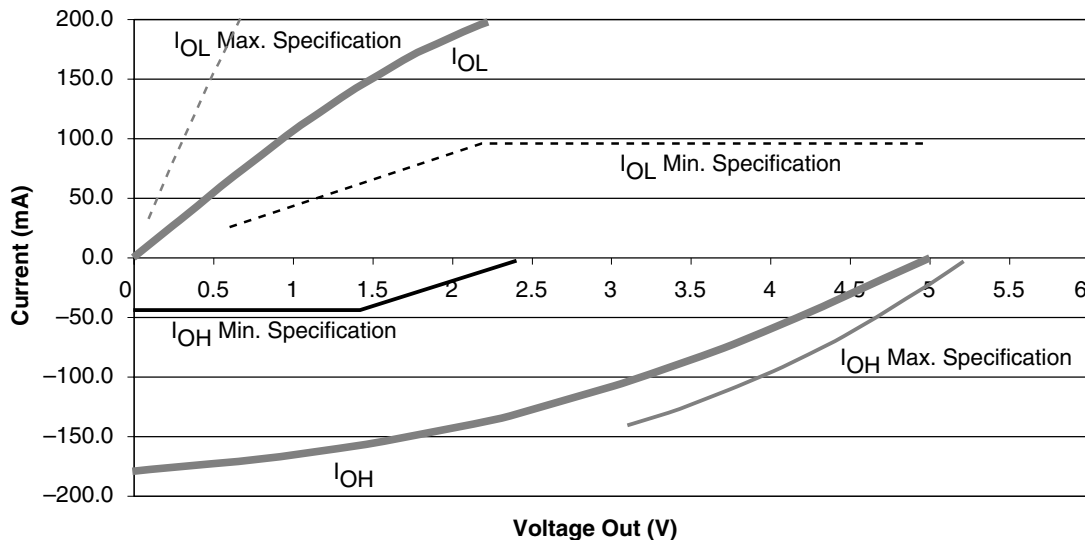

Figure 2-7 • 5V PCI V/I Curve for RTSX-5
1. Refer to the V_{II} curves in Figure 2-7 on page 2-16. Switching current characteristics for REQ# and GNT# are permitted to be one half of that specified here; i.e., half size output drivers may be used on these signals. This specification does not apply to CLK and RST#, which are system outputs. The "Switching Current High" specification is not relevant to SERR#, INTA#, INTB#, INTC#, and INTD#, which are open drain outputs.
3. Maximum current requirements must be met as drivers pull beyond the last step voltage. Equations defining these maximums (A and B) are provided with the respective curves in Figure 2-7 on page 2-16. The equation defined maximum should be met by the design. In order to facilitate component testing, a maximum current test point is defined for each side of the output driver.